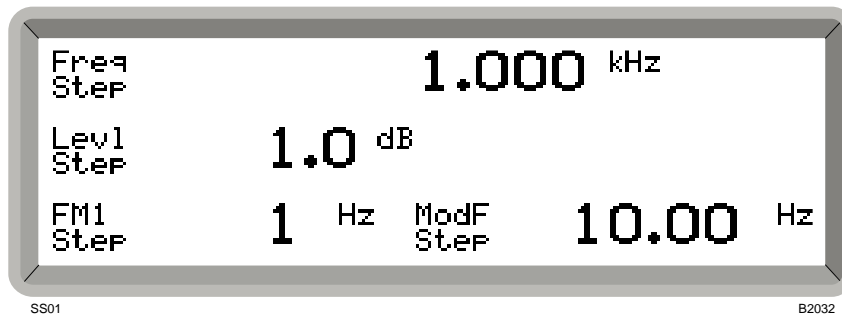

Fig. 4-8 Step setting display showing default settings
- (8) Press [KNOB/STEP] to disable the control knob (as indicated by the bracket no longer being displayed).
- (9) Press [SET Δ]. The screen changes to display the default step settings for frequency, level and modulation as shown in Fig. 4-8.
- (10) Press [CARR FREQ]. *Freq Step* is highlighted. Enter the step value on the key pad and terminate with the [MHz], [kHz] or [Hz] key.
- (11) Press [CARR FREQ] again to return to the main screen.